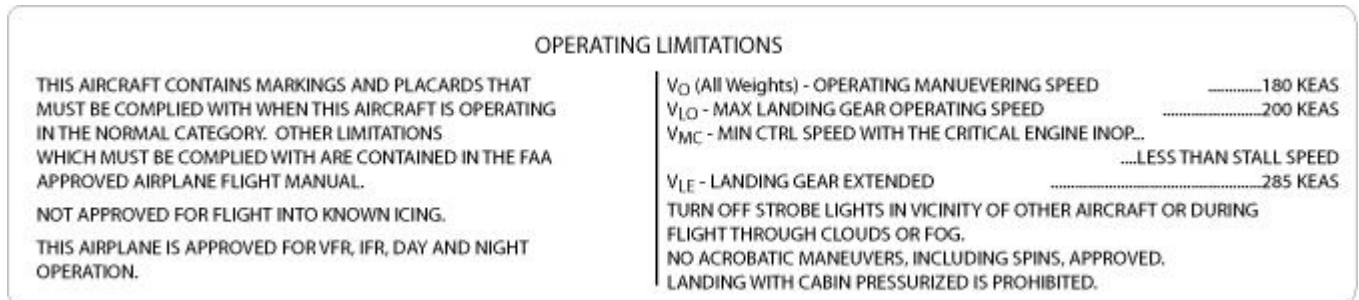

Figure 1
- (1) Make aircraft safe for maintenance. Refer to AMM 20-00-01 MAKE SAFE FOR MAINTENANCE.
- (2) Verify placard AIRSPEED/OPERATIONAL LIMITS P/N 11-121963-200X (Figure. 1) is installed in cockpit. Placards are located on left and right cockpit sidewall panels. Refer to AMM 11-30-11 INTERIOR PLACARDS, COCKPIT-INSTALLATION, and IPC 11-30-11 COCKPIT PLACARDS.